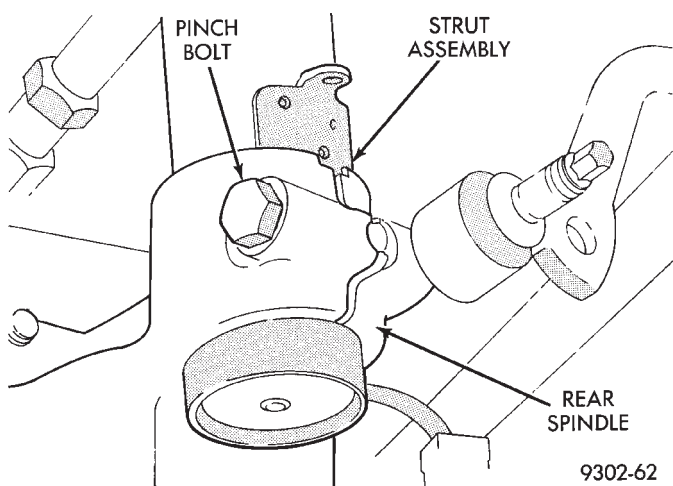

Fig. 10 Spindle To Strut Assembly Pinch Bolt
(12) Loosen and fully remove, the rear spindle to strut assembly pinch bolt (Fig. 10).